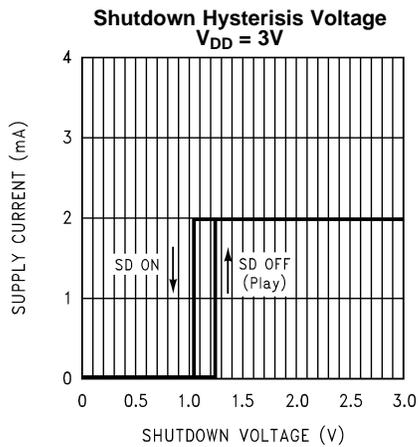
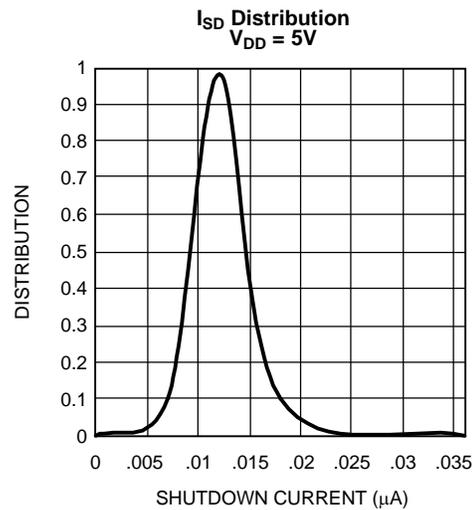

Figure 29.
Figure 30.
- (1) All voltages are measured with respect to the GND pin unless otherwise specified.
- (2) Absolute Maximum Ratings indicate limits beyond which damage to the device may occur. Operating Ratings indicate conditions for which the device is functional but do not ensure specific performance limits. Electrical Characteristics state DC and AC electrical specifications under particular test conditions which ensure specific performance limits. This assumes that the device is within the Operating Ratings. Specifications are not ensured for parameters where no limit is given, however, the typical value is a good indication of device performance.
- (3) Datasheet min/max specifications are specified by design, test, or statistical analysis.
- (4) Typicals are measured at $25^\circ C$ and represent the parametric norm.
- (5) Limits are specified to AOQL (Average Outgoing Quality Level).
- (6) See I_{SD} distribution values shown in the I_{SD} Distribution curves, $V_{DD} = 5V$ and $V = 3V$, (Figure 29 and Figure 30, respectively) shown in the Typical Performance Characteristics section.
- (4) Typical values are measured at $25^\circ C$ and represent the parametric norm.